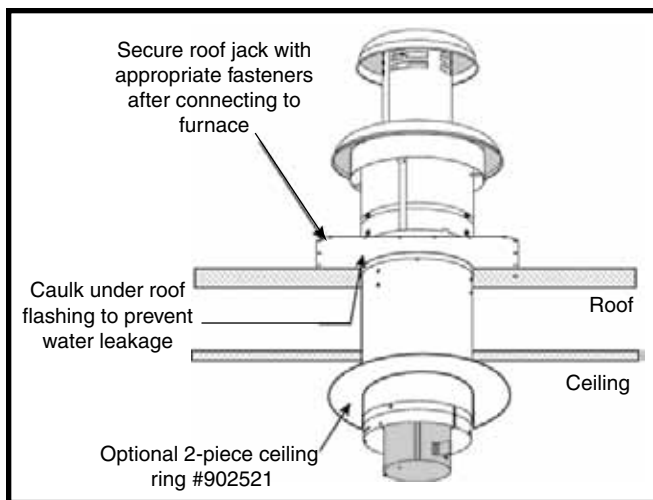
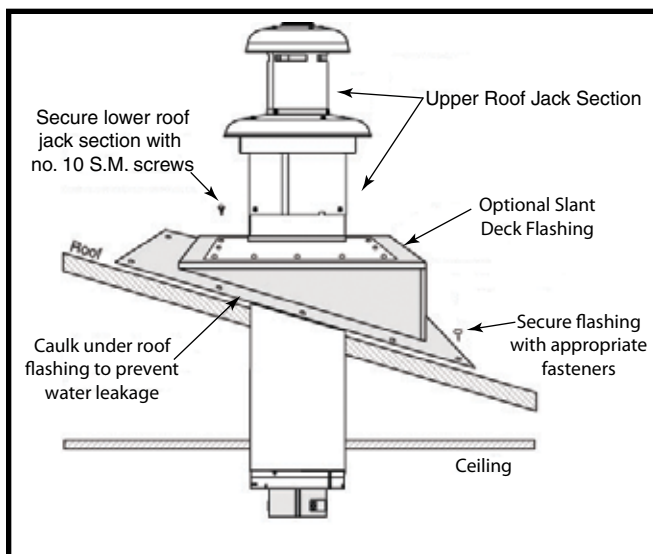

Figure 20. Flat Roof
Figure 21. Pitched Roof
1. Apply caulking compound on underside of roof flashing to form a continuous strip at least 3/8" wide around the underside of the perimeter of the flashing. See Figure 20 or Figure 21 (page 13).